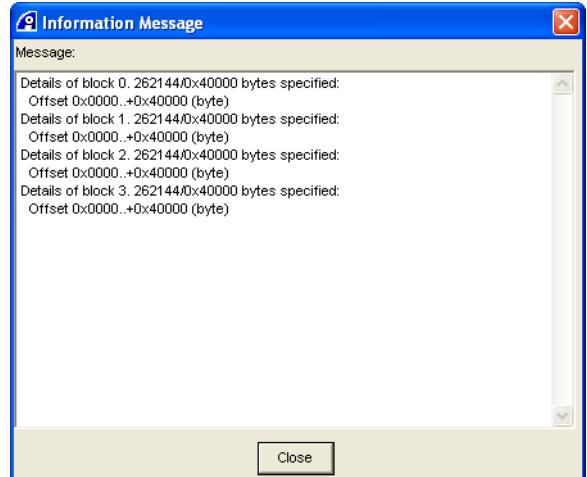

Figure 6-4 Flash block details
2. Click **Details** to display the Flash block Information Message dialog box. Figure 6-4 shows an example: